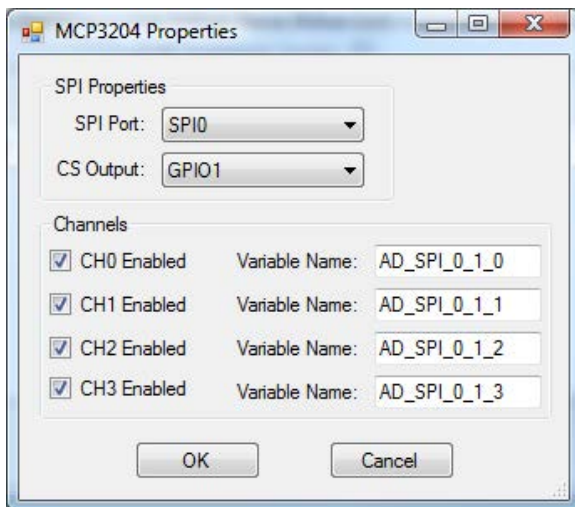

Figure 15-10
Select the SPI port from the drop down menu and select the general purpose output pin (GPO) that will serve as this device's chip select (CS). See Figure 15-10. Any chip select pins reserved for structured text will not be visible in the drop-down menu.